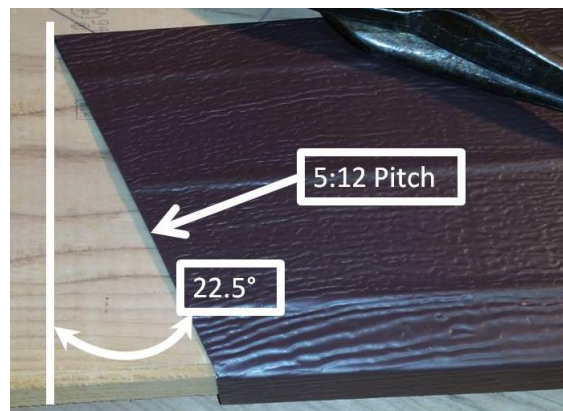

Figure 11-17. Gable Peak Front Side Fascia
16. Measure from the end of the lower fascia piece to the peak and add 1½". Measure this distance from the appropriate factory edge and mark the top edge. Align the speed square 90° corner with this mark to mark and cut the necessary angle. See Figure 11-17 for the right-hand peak end cut.